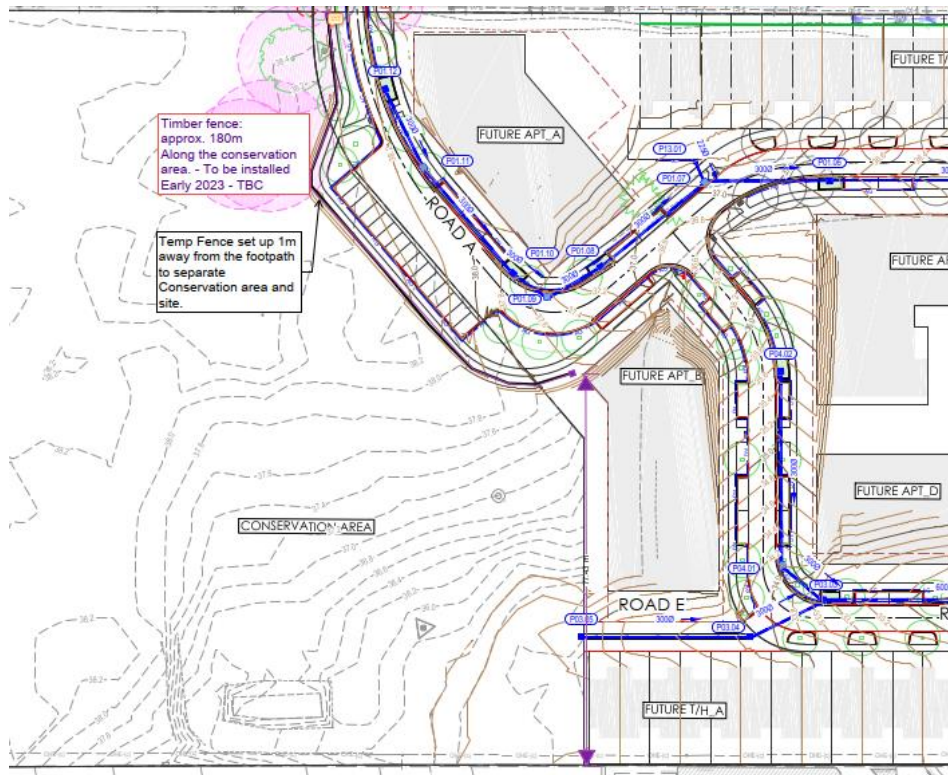

Figure 8 Temp Fence to Separate Conservation Area and Work Zone
- a. Put on Signage 'TREE PROTECTION ZONE' and 1.8m temp fences at the edge of conservation area prior to any works commencing on site. The fencing will be firmly attached to removable concrete or similar base. Fence location as shown below Figure 8.